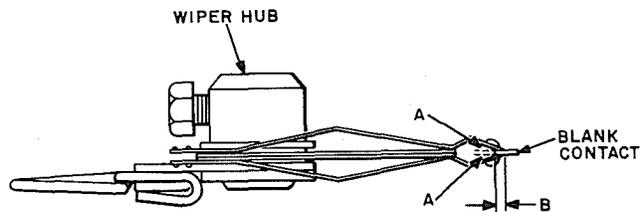

Fig. 2—Wiper Tips on Bank Contact
- (a) **Fig. 2(A):** The wiper shall rest on the bank contacts on their tips only and the upper and lower tips shall rest on the bank contacts at approximately equal angles.
- (b) **Fig. 2(B):** The wiper tips shall overlap the end of each associated bank contact by at least 3/64 inch.